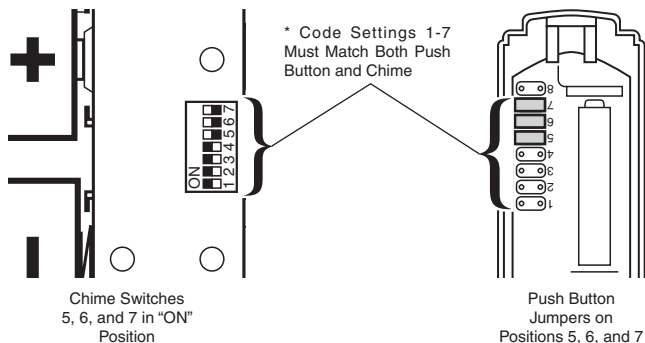

Figure 9 - Inside Push Button and Chime
- Make sure push button and chime codes are the same (see Figure 9).
1. Open the cases and locate the jumpers on the push button and the switches on the chime (see Figure 9).
Note: Unit will come factory set with jumpers in locations 5, 6, and 7 on the push button and switch locations 5, 6, and 7 in the "ON" position on the chime (see Figure 9).